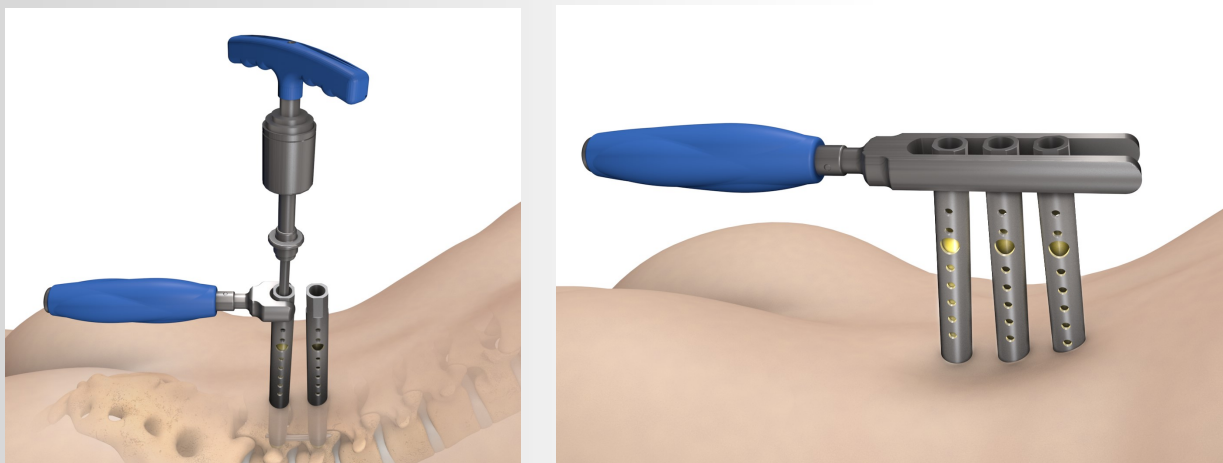

Figure 28 (Left: A type, Right: C-type)
- A. The top of the Support Towers interface with the **Anti-torque A type** (Figure 28, left). The Anti-torque A type can be used, if needed, to secure the Support Towers in fully seated position by applying downward force on the Support Towers during the application of compression or distraction.
- B. The **Anti-torque C type** (Figure 28, right) can be used for final tightening of the Set Screws with the Multi-level Compressor/Distractor in place. The **Torque Wrench** must be used for final tightening of the construct.